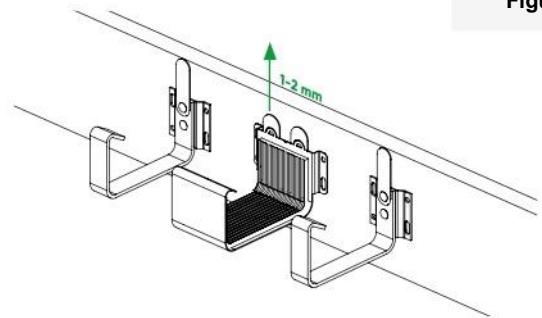

Figure 17
- 4.3. The expansion coupler should be screwed to the fascia board higher than the adjacent brackets (the upper surface of the expansion coupler gasket should be approx. 1-2 mm above the gutter bottom surface) (**Fig. 17**).